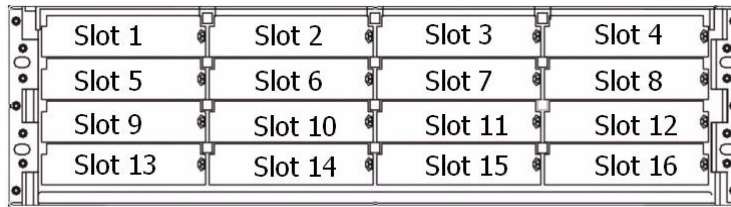

Fig. 2.5 Hard Drive Numbering
The front panel of the RAID subsystem enclosure houses sixteen (16) hard drives in a 4x4 configuration as shown in *Figure 2.5*. When viewed from the front, the drive bays (slots) are numbered 1 to 16 from left to right, from top to bottom.